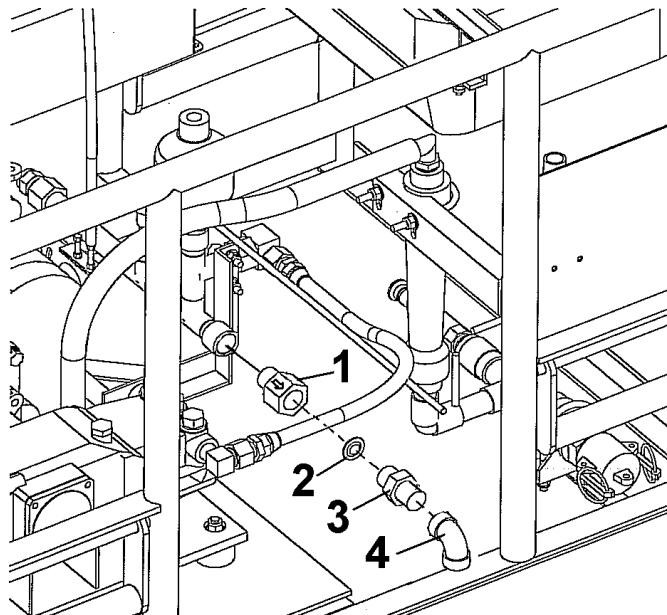

Figure 1. Rupture Disc Holder.
1. Loosen the outlet half (3) of the rupture disc holder and elbow (4) from product piping. It is not necessary to separate the elbow (4) from the outlet half (3). See Figure 1.
2. Remove rupture disc (2).